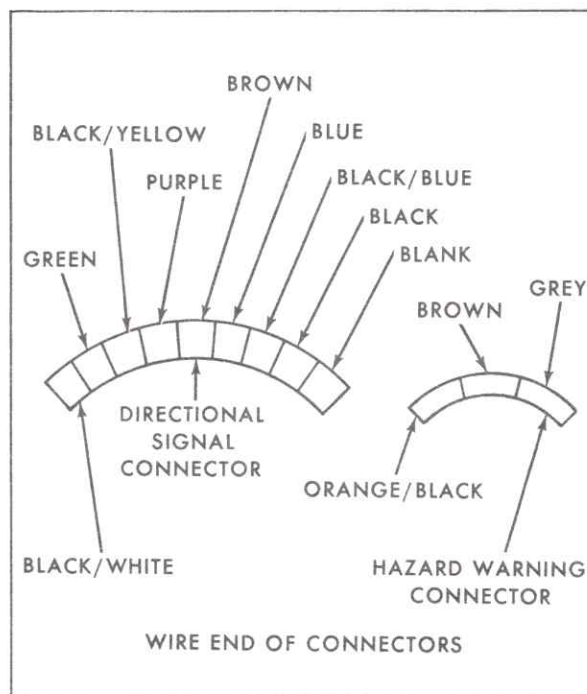

Fig. 9-57 Signal Wire Placement in Connector
7. Install signal switch wire harness and connector through the bearing housing and shift bowl, Fig. 9-57.